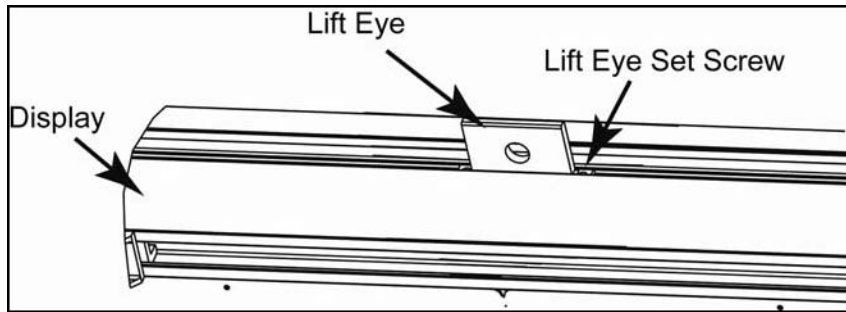

Figure 4: Installed Lift Eye
16. Ensure lift eyes are secure by tightening the $\frac{3}{16}$ " Lift Eye Set Screws. Refer to **Figure 4**.